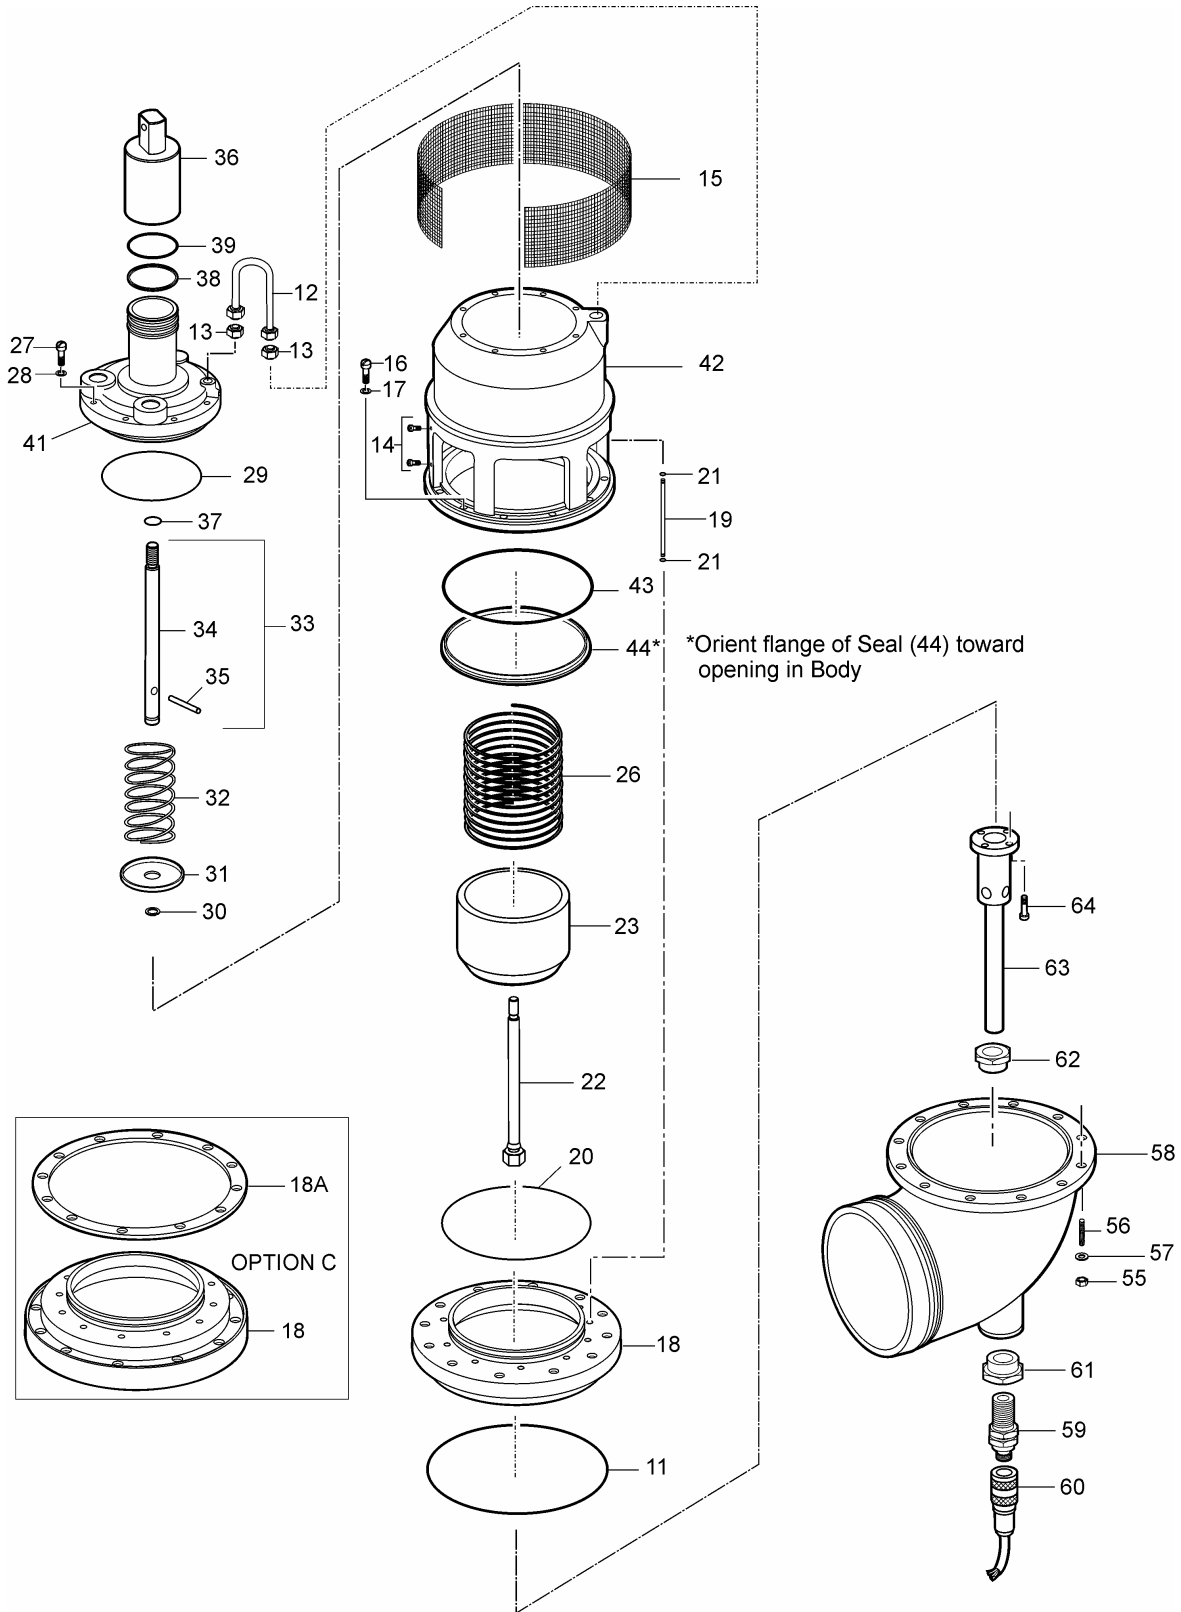

Figure 2
- 6.1.4 When installing the Seal (2-44) onto O-ring (2-43) in Body (2-42) be sure to smooth the surface evenly with a finger. See the installation note on Figure 2.